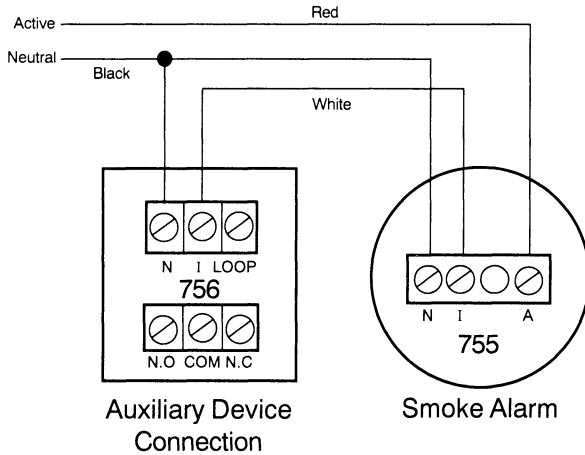

Figure 2
- Figure 2 illustrates the wiring diagram for connection of the 756 Isolation Unit to a single 755 Smoke Alarm. For connecting the Isolation Unit to any other type or model of Smoke Alarm please consult your nearest Clipsal representative.